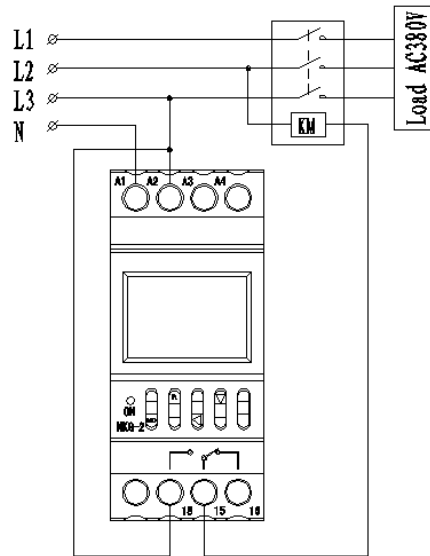

Figure 5 Three-phase controlled wiring diagram (380V for contactor coil)
- b) The coil voltage of the controlled contactor is AC 380V 50Hz, so its wiring method sees Figure 5.